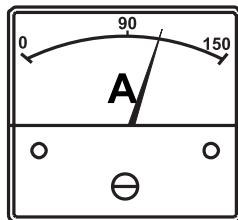

Figure 13. Ammeter (Load)
13. Observe the generator's ammeter (Figure 13) and verify it reads the anticipated amount of current with respect to the load. The ammeter will only display a current reading if a load is in use.